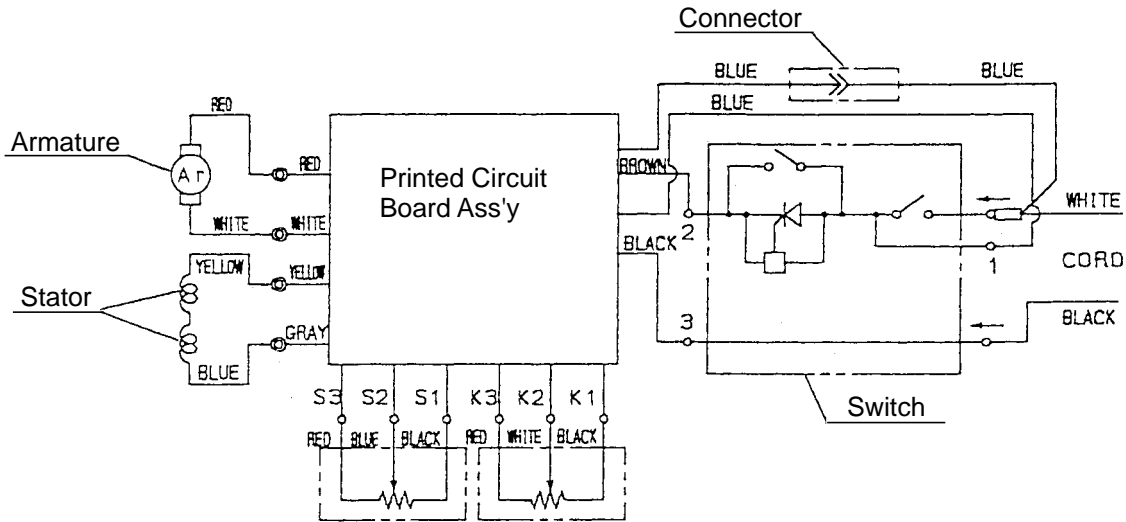

Fig. 19
### (1) Reassembly of the power supply unit (Figs. 19 and 20)